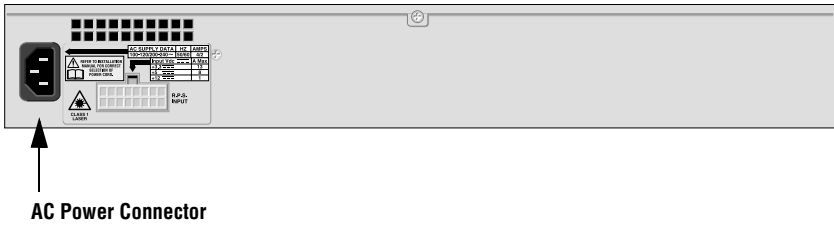

Figure 1 Switch Rear Panel
4. Apply AC power to the switch by plugging the power cord into the AC power connector on the back panel of the unit (shown in Figure 1) and plugging the other end into a wall outlet.
7. Apply AC power to the switch by plugging the power cord into the AC power connector on the back panel of the unit (shown in Figure 1) and plugging the other end into a power outlet.